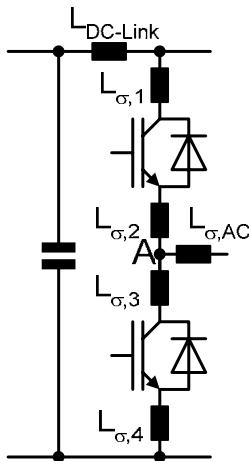

Figure 5: Schematic of one half bridge leg including the parasitic inductances.
The most widespread converter concept is based on the 2-level inverter that consists of three half bridge legs producing output current for three phased applications. The effective stray inductance is defined by the loop inductance from the DC-link capacitor through one respective half bridge. Parasitic inductances from the DC-link as well as inductances inside the module contribute to the overall stray inductance of the set up. The schematic circuitry for one phase leg, including the parasitic inductances, is given in figure 5.
- The point of commutation marked "A" in fig. 5 is shifted as close to the silicon dies as possible, reducing  $L_{\sigma,2}$  and  $L_{\sigma,3}$  to below 1nH.
- The inductances of the DC terminal contact,  $L_{\sigma,1}$  and  $L_{\sigma,4}$  in fig. 5 are reduced to less than 10nH for the PrimePACK™3 by applying alternating finger shaped terminals.